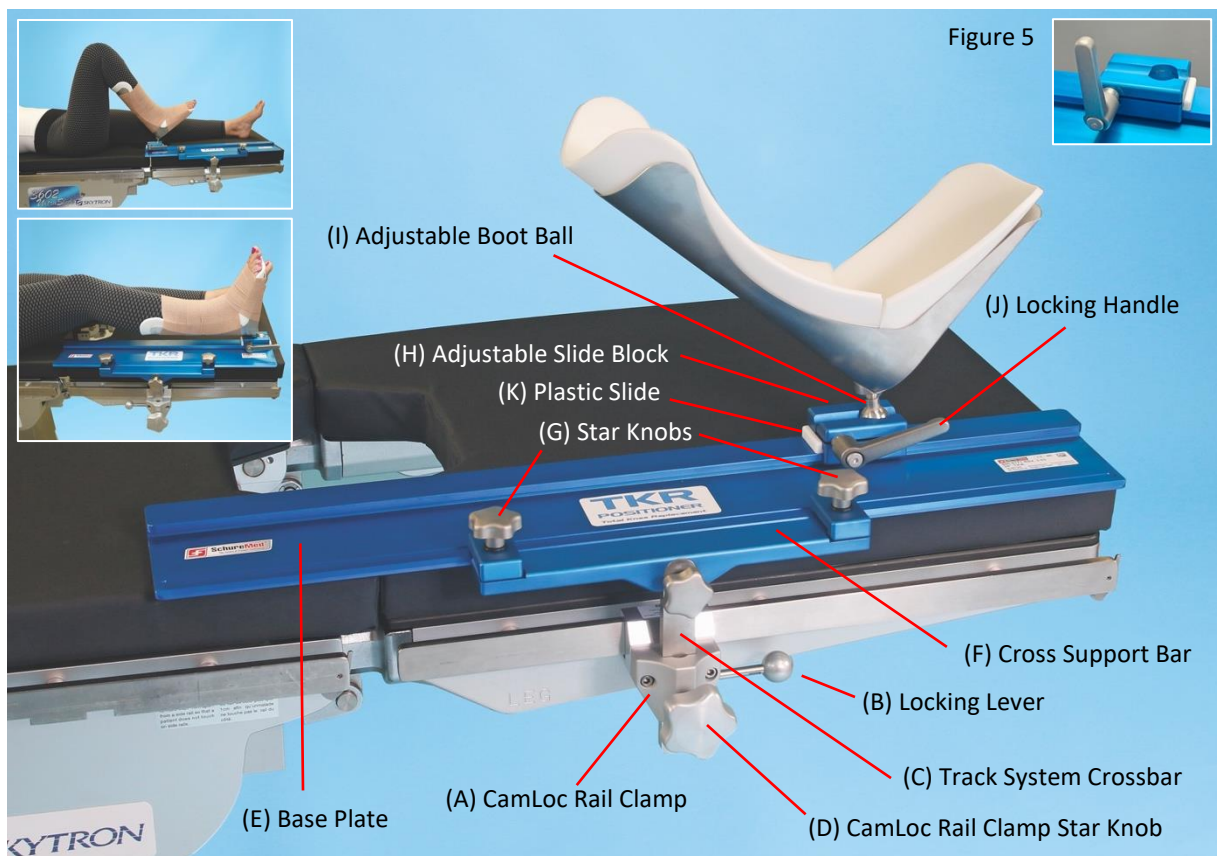

Figure 5
2. *Attach CamLoc Rail Clamp (A) to rail. Then flip Locking Lever (B) right or left to secure. **(DO NOT ATTACH OVER NOTCHES WITHIN SIDE RAIL).***
3. *Slide Track System Crossbar (C) into CamLoc Rail Clamp (A). Securely tighten Track System Crossbar (C) by turning CamLoc Rail Clamp Star Knob (D) clockwise.*
4. *Slide Base Plate (E) into Cross Support Bar (F) making sure its flush. Tighten two Star Knobs (G) by turning clockwise.*
5. *Insert Plastic Slide (K) within opening under Adjustable Slide Block (H), with notched side up. Make sure Locking handle (J) is rotated until it stops (do not tighten) before sliding on to Base Plate (E). Locking Handle (J) should be in 12:00 position (see Figure 5). Depress button and pull Locking Handle (J) to adjust as needed. Slide on to track system while holding Plastic Slide (K) up close to Adjustable Slide Block (H). **WARNING! Only adjust adjustable slide block Locking Handle (J) lever when it is on track.***
6. *Place Adjustable Boot Ball (I) into track system's Adjustable Slide Block (H).*
8. *Prep and position patient, turn Adjustable Slide Block Locking Handle (J) right to lock into desired position*